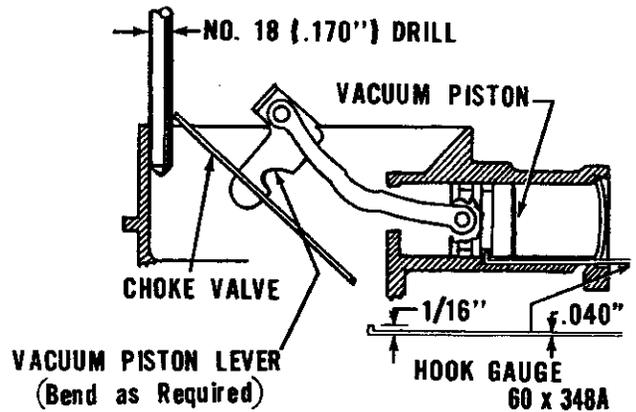

Fig. 17—Vacuum Kick Setting
(1) Remove the welch plug from the choke piston cylinder, and insert a hook gauge (.036 to .040" diameter) into the slot in the cylinder wall. Rotate the hook end so that it engages the end groove in the piston. Apply light closing pressure against the choke valve so that the hook gauge is trapped between the groove in the piston and the end of the slot, as shown in Figure 17. It should be possible to insert a No. 18 (.070") drill between the air horn and the choke valve. If an adjustment is necessary, bend the era of the bracket as shown, until the correct opening has been obtained. Install a new welch plug.